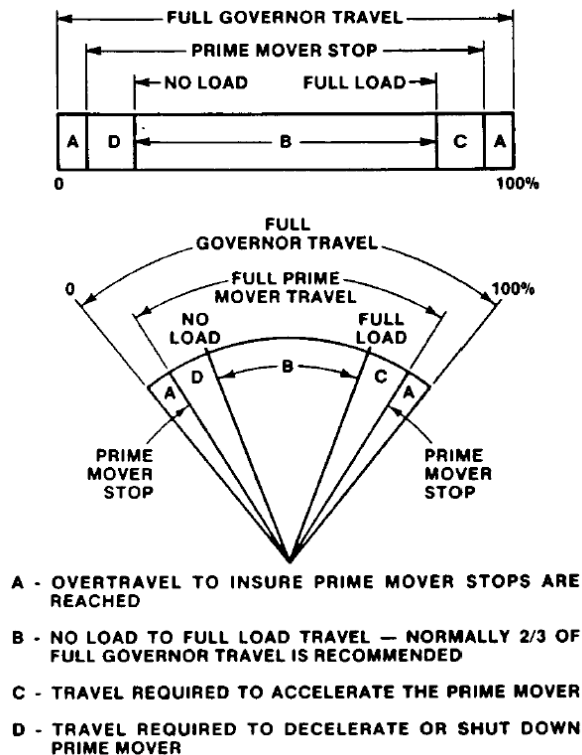

Figure 5. Actuator and Fuel Control Travel
13. The actuator will operate most responsively if the shaft approaches—**but does not reach**—its travel limit (35 degrees) when the shutdown lever is at the maximum-fuel position (see Figure 5). Adjust control rod length to a dimension that will best allow these conditions to exist. Be sure that the actuator can move from minimum-fuel to maximum-fuel position without binding or exhibiting lost motion.